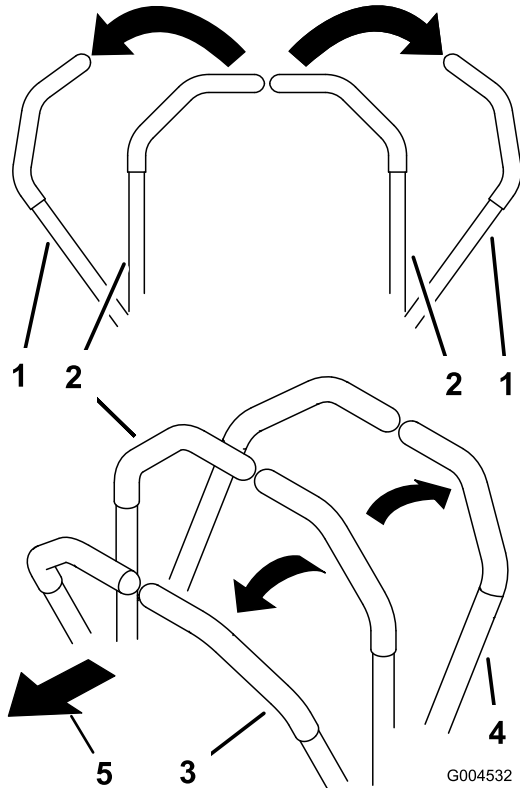

Figure 17
2. To go forward, slowly push the motion control levers forward (Figure 17).
To go straight, apply equal pressure to both motion control levers (Figure 17).